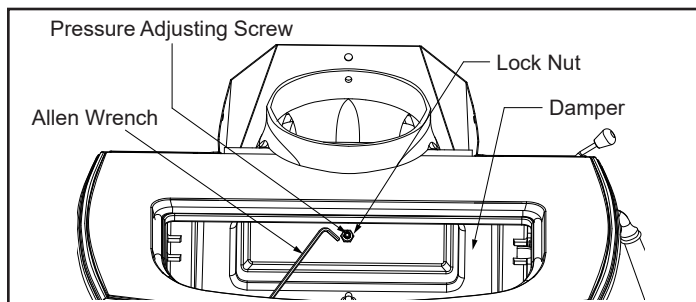

Figure 3.2 - Adjust the damper with the Allen wrench.
1. Remove the griddle. Loosen the lock nut at the center of the damper. (Figure 3.2)